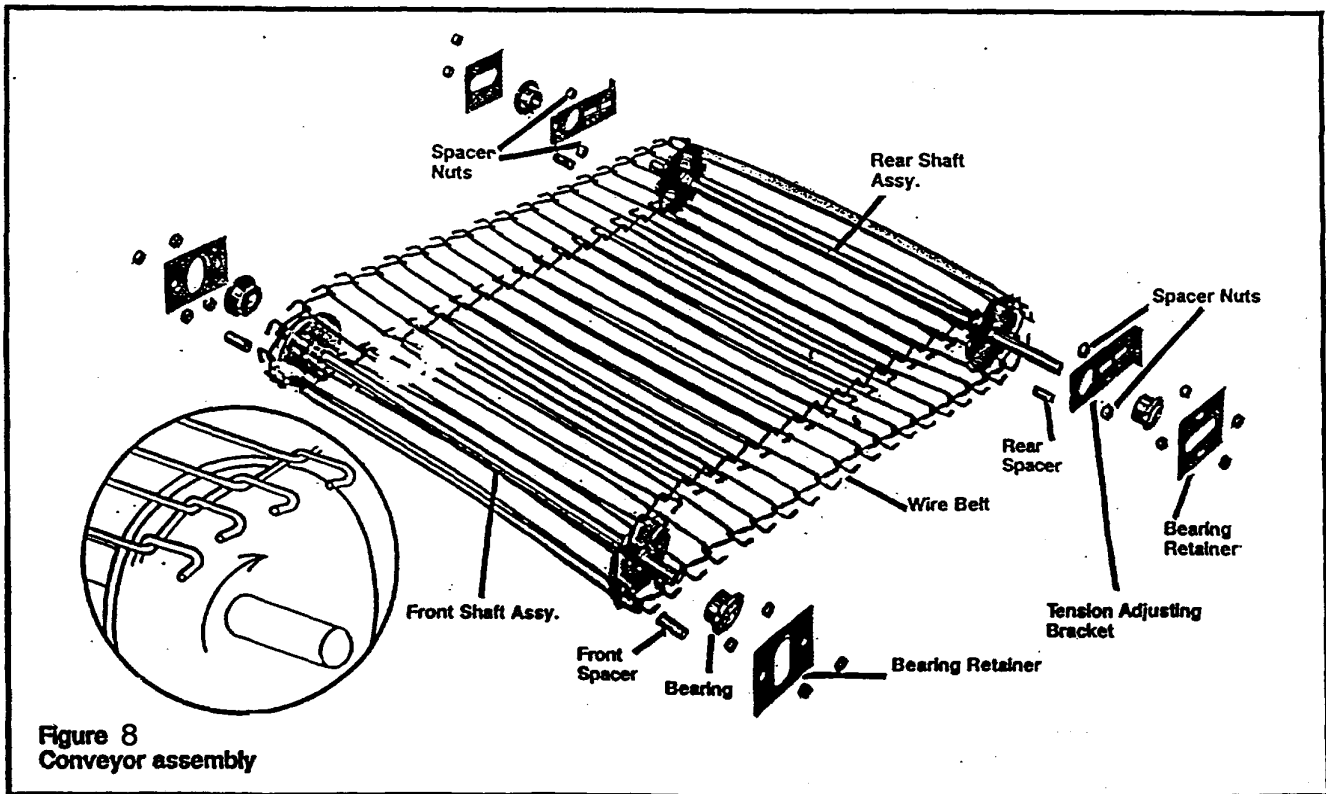

Figure 8
(Figure 8)
5. Before installing new chain, check for proper orientation (See Figure 8), and correct number of links.